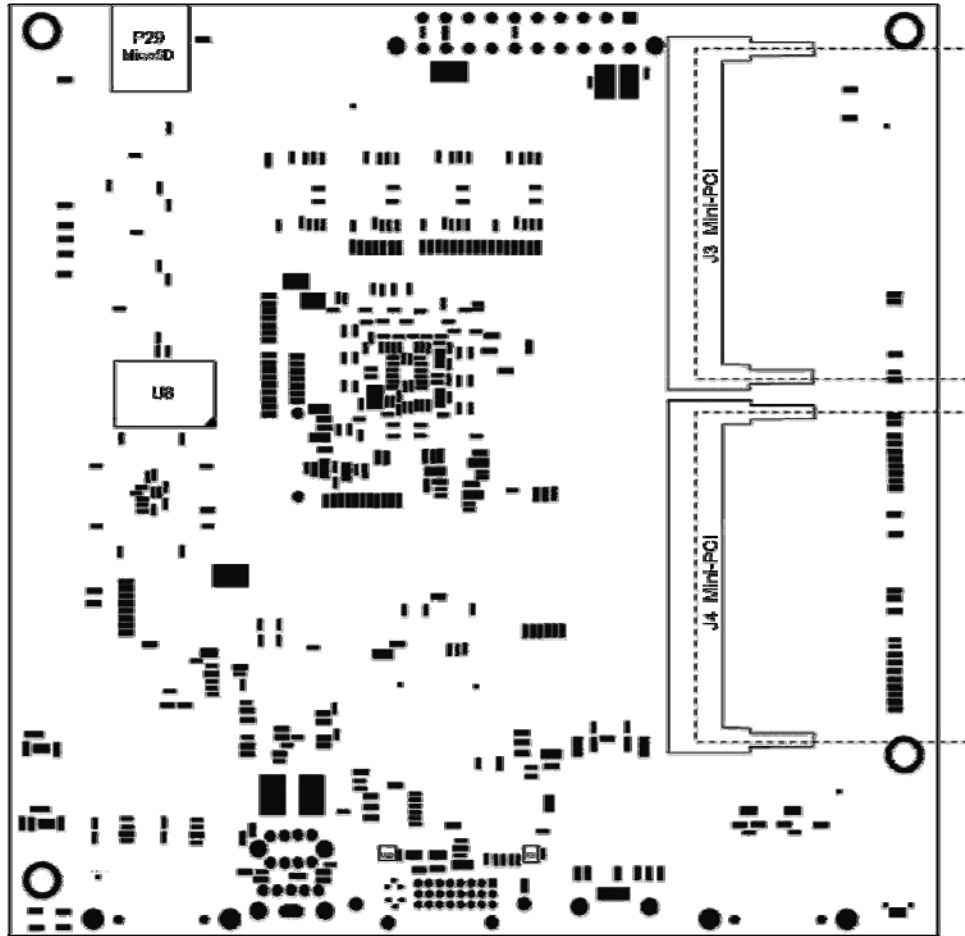

Figure 3 – ADS512101 Bottom Board Layout
1.1.04 J03 – Mini-PCI Connector (See Figure 3)
1.1.05 J04 – Mini-PCI Connector (See Figure 3)
1.1.39 P29 – Micro-SD Socket (See Figure 3)